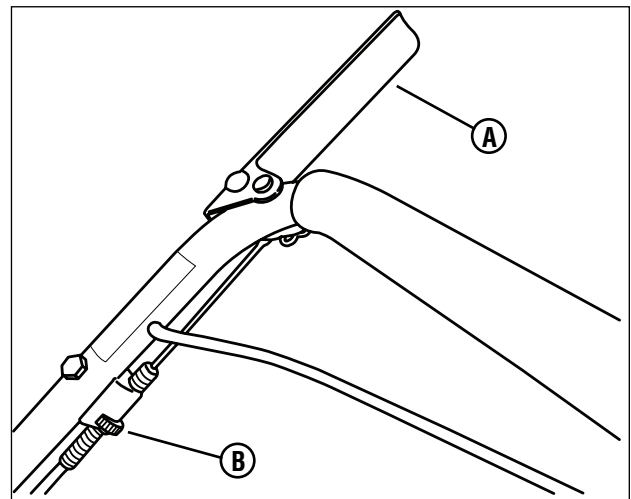

Figure 14: Wheel drive control adjustment
- With the wheel drive control (**A**, **Figure 14**) engaged, pull the mower handles, moving the mower rearward.